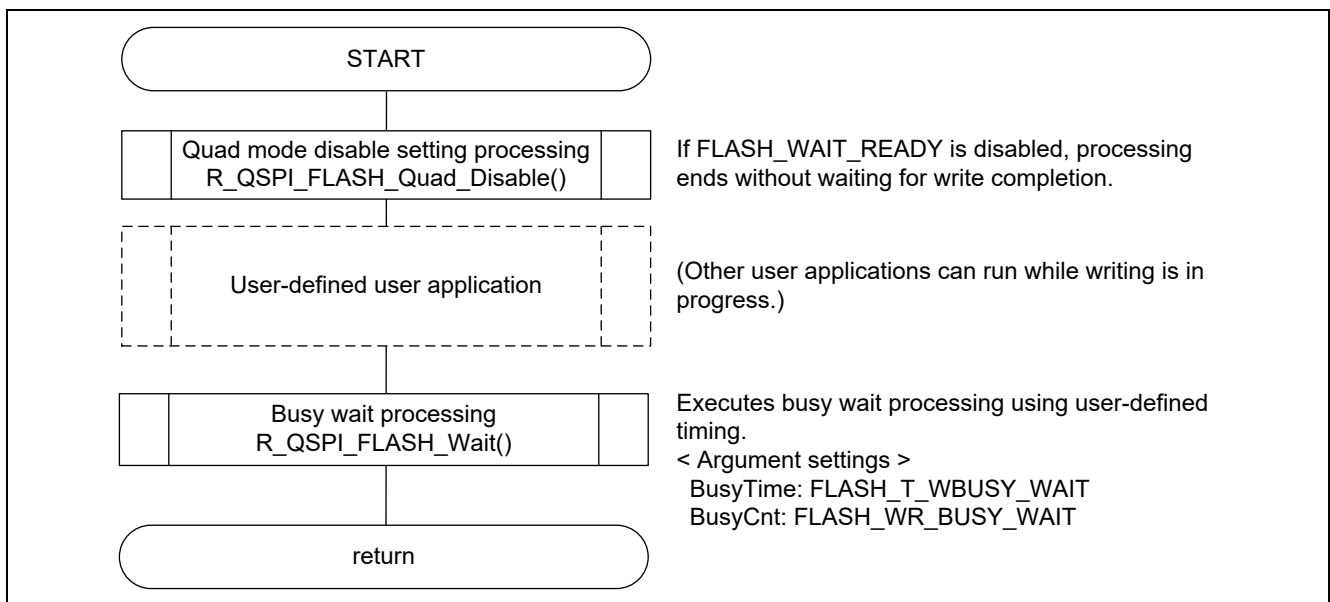

Figure 5.19 Waiting for Quad Mode Disable Setting to Finish Using R_QSPI_FLASH_Wait()
Description	<ul style="list-style-type: none"> • Clears the quad enable (QE) bit in the status register to 0 to enable quad mode. • After processing finishes, read the status register to confirm the setting of the QE bit. • The quad enable (QE) bit is non-volatile. To disable quad mode after it has been enabled once, run this function. • There are two methods of waiting for the write to finish. These are shown below. Note that the next processing (write, read, erase, etc.) should be run after confirming that the write has finished. <ul style="list-style-type: none"> < Using this user API to wait for the write to finish > Enable FLASH_WAIT_READY in r_qspi_flash_mx25l.h. < Not using this user API to wait for the write to finish > Disable FLASH_WAIT_READY in r_qspi_flash_mx25l.h, and call R_QSPI_FLASH_Wait() after processing by this user API has finished. This processing method allows you to perform write-end wait confirmation at any time you wish. Refer to figure 5.19 for instructions.